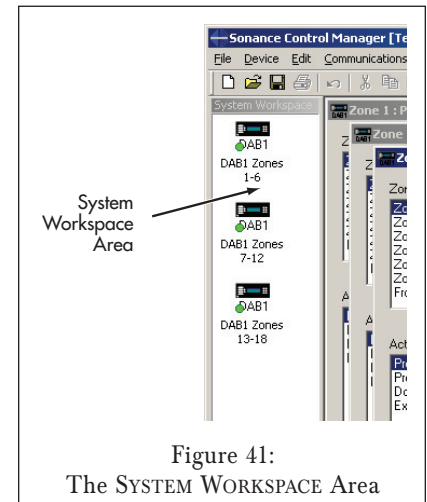
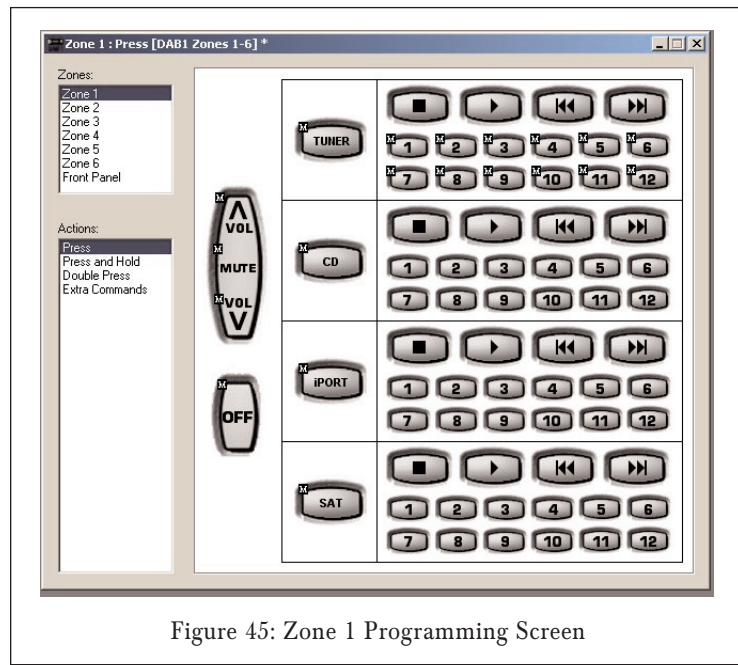

Figure 41:
Figure 45: Zone 1 Programming Screen
In the SYSTEM WORKSPACE area of the Device screen (see Figure 41), select each DAB1 in the system and rename each one with a different name.
2. If the system has more than one DAB1, use the DEVICE SELECTOR (see *Figure 41*) to select the one you want to program. The Zone 1 programming screen for that DAB1 will appear (see *Figure 45*).
1. Open the system and select the DAB1. the Zone Programming Screen (Figure 45, on page 35) will appear.